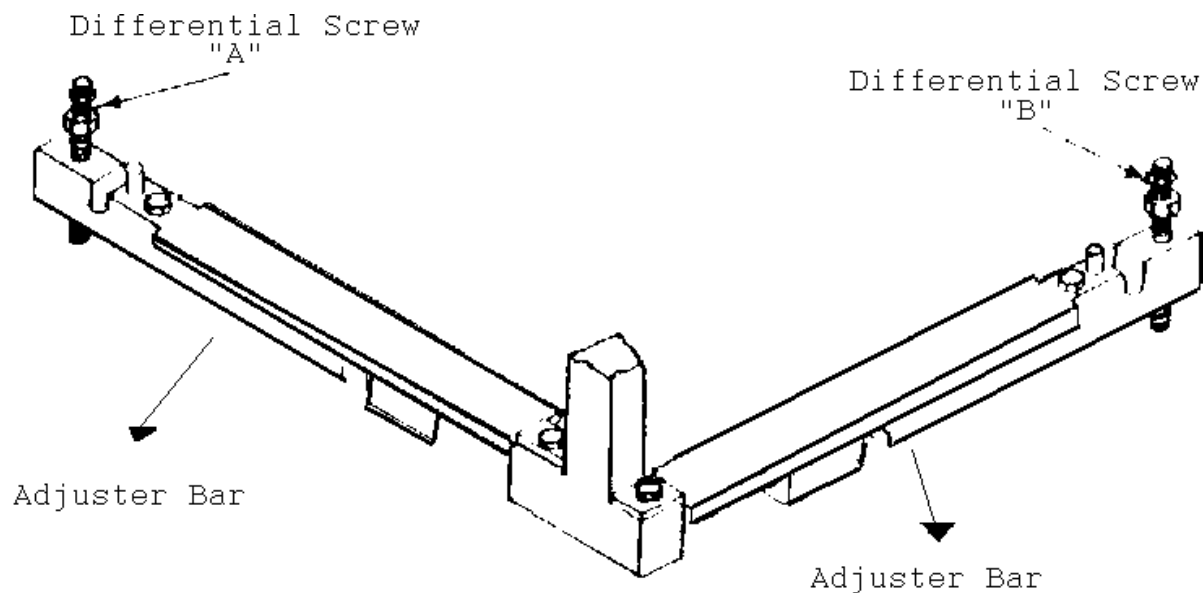

FIGURE 1
3. Equalize readings, as close as possible, by fine adjustment of Differential screws "A" And "B" on adjustment bars, after loosening lock nuts, Figure 1.